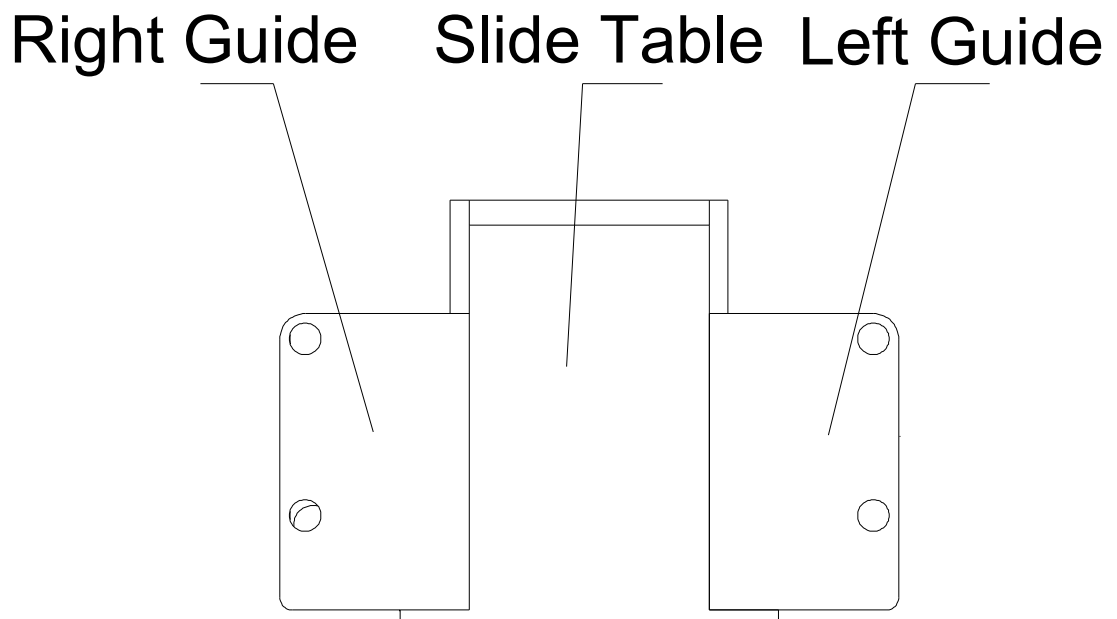
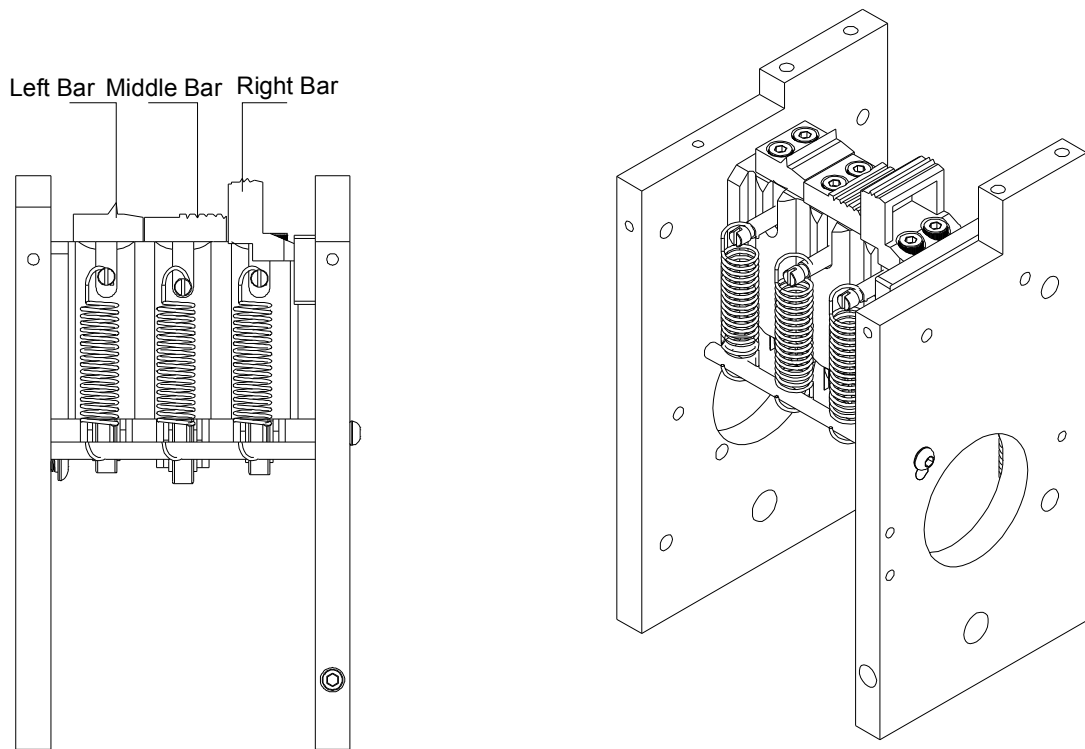

FIG 3-4
FIG 3-5
- ① Slide table (as shown in FIG 3-4), left bar, middle bar and right bar (as shown in FIG 3-5) should be lubricated with oil monthly.
- ② The place with shafts and holes and bearings should be lubricated with oil once every 3 months.
- ③ Grease in the gearbox of the decelerator should be supplemented once every year.
- ④ Please note that the following parts cannot be lubricated:
- ① Slide table: (As shown in FIG 3-4) the slide table must fit with the left and right guide rails precisely, and can also move forward smoothly. Therefore this position especially needs to be cleaned and maintained. The cleaning procedure is summarized as follows:
- ② Left, middle and right bars: All of them must move up and down smoothly at the chamber base, or the machine cannot strap normally. Therefore cleaning and maintenance are very important. The method is as following: (as shown in FIG 3-5).